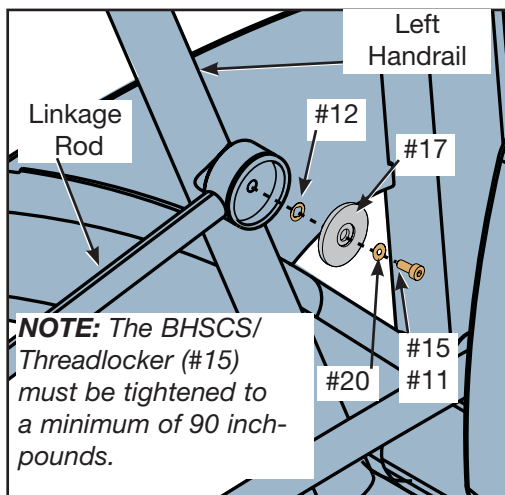

Figure 7
- D. Locate left linkage rod, left handrail, linkage rod cap (#17), flange spacer (#12), screw .250-20 x .75 (#15) and washer .281 x .50 (#20). See Figure 7.
- E. Place a drop of threadlocker on each BHSCS and another drop inside the shaft (where each BHSCS will be tightened into). Then secure linkage rod to handrail with linkage rod cap (#17), flange spacer (#12), BHSCS/Threadlocker .250-20 x .75 (#15) and washer .281 x .50 (#20) as shown in Figures 7 and 9. **NOTE:** The BHSCS .250-20 x .75 (#15) must be tightened to a minimum of 90 inch-pounds.